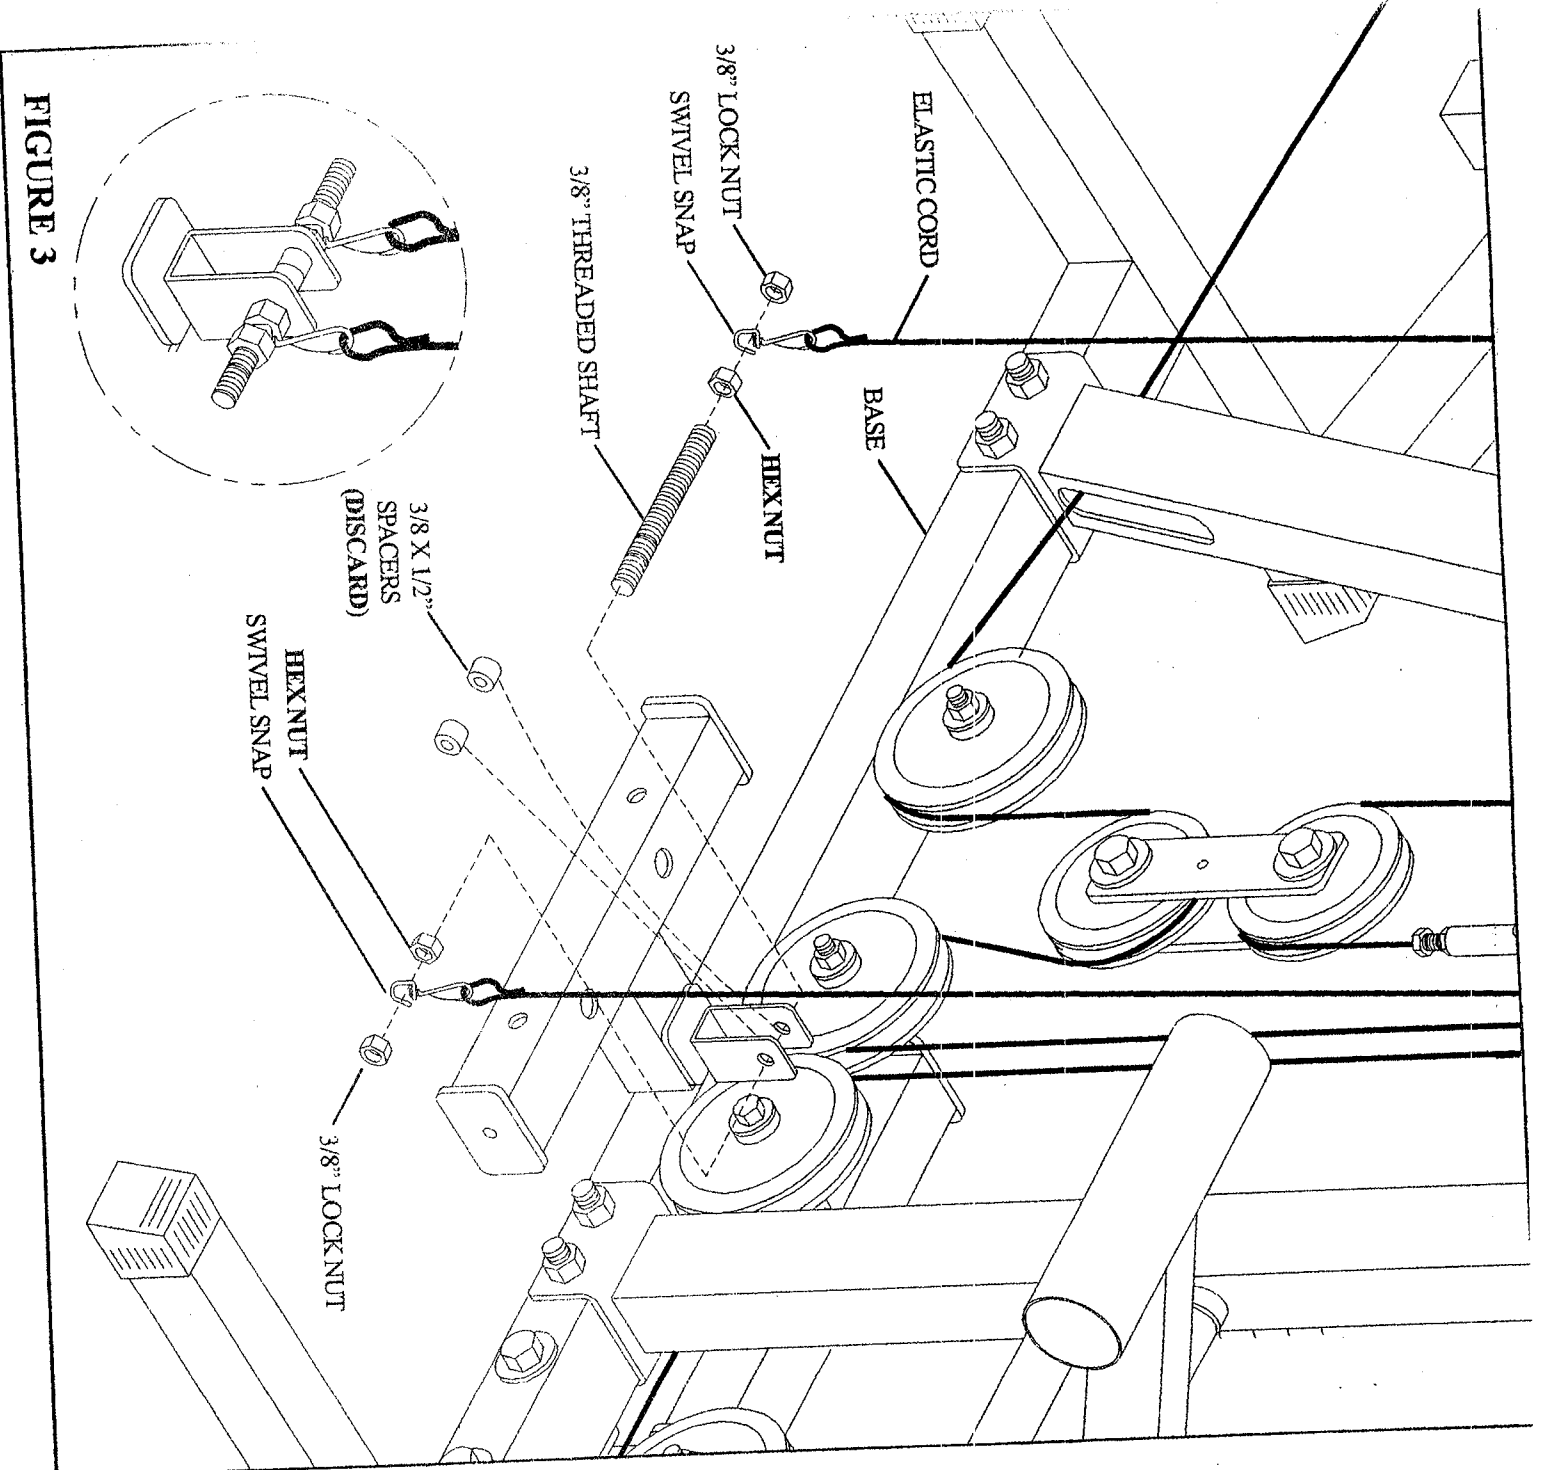

FIGURE 3
- Remove two 3/8" LOCK NUTS, two 3/8" HEX NUTS, two SWIVEL SNAP (68) (keep elastic cords attached), two 3/8 X 1/2" SPACERS, and one 3/8" THREADED SHAFT from the bracket on the BASE as shown in FIGURE 3.